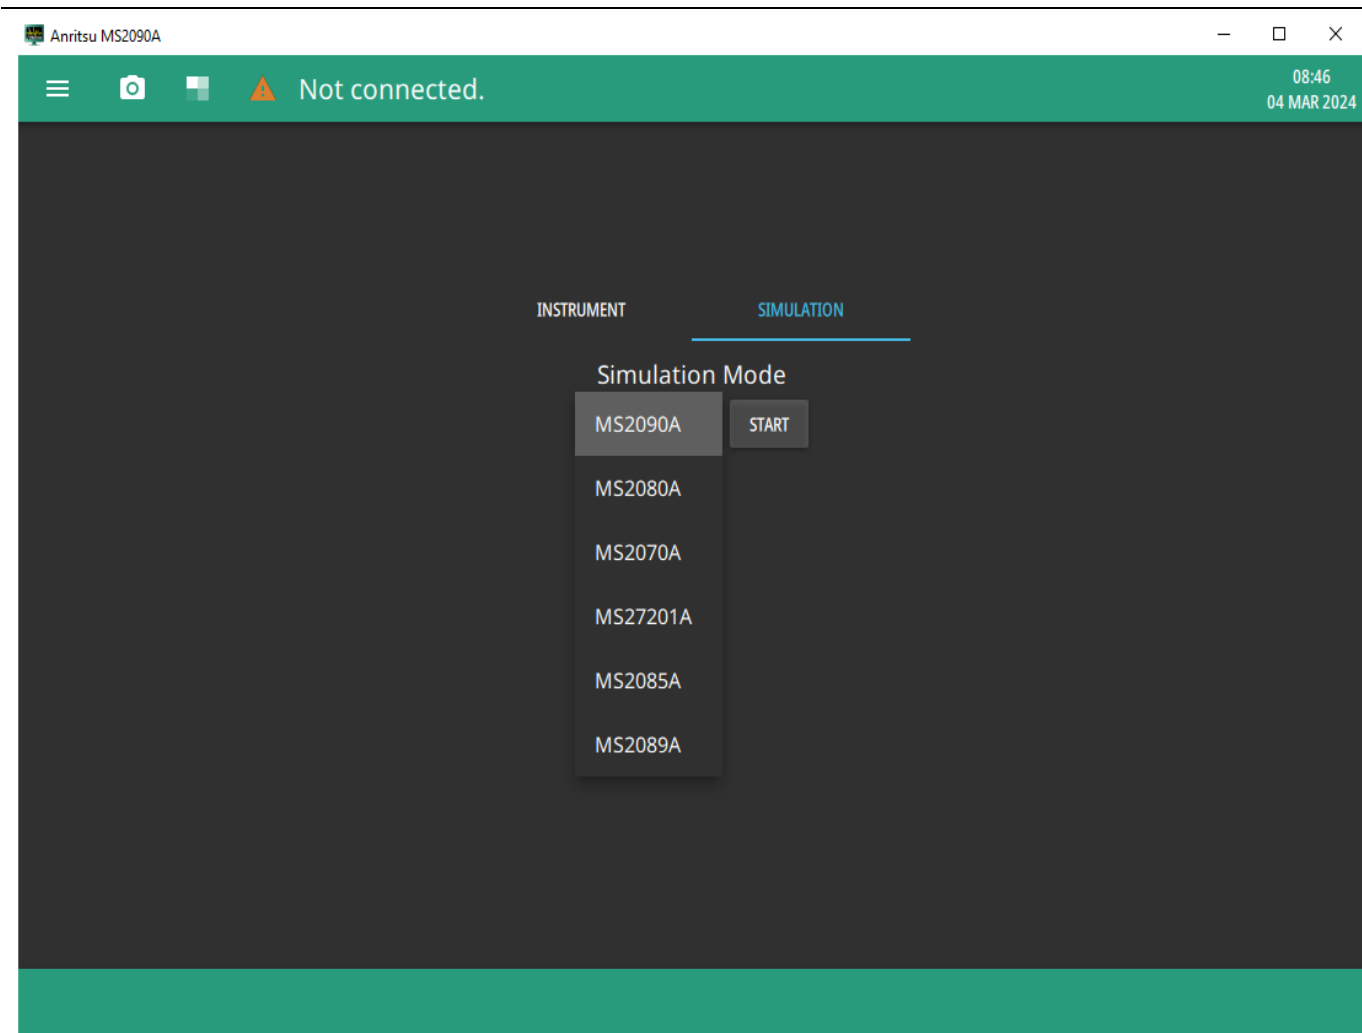

Figure D-3. Connecting to Simulation Mode
4. Alternatively, to get connected to simulation mode click SIMULATION tab. See Figure D-3.